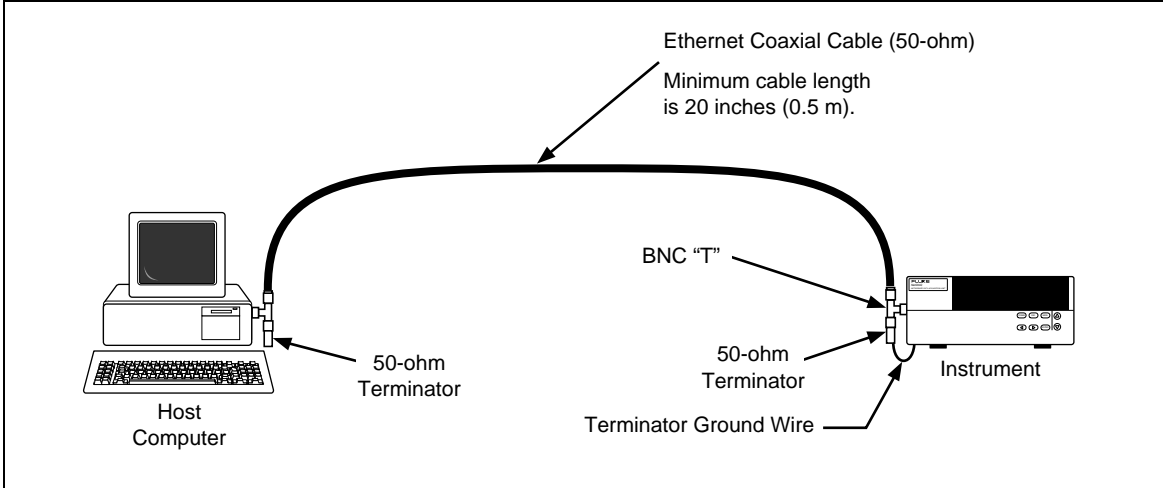

FIGURE 4-1. Performance Test Setup
1. **Connect the Instrument and the Host Computer** Connect the supplied 50-ohm coaxial cable, with a BNC "T" or "Y" and 50-ohm terminator, between the host computer BNC Ethernet port and the instrument BNC Ethernet port. The 50-ohm terminator with the ground lead is used at the instrument with the terminator ground lug connected to the ground terminal adjacent to the BNC port (Figure 4-1).